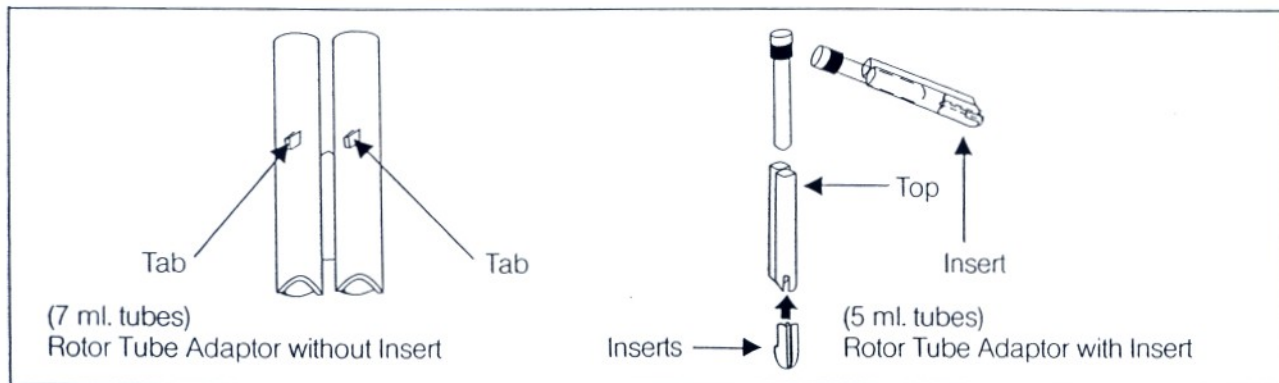

Figure 15. Rotor Adaptors with and without Inserts
- 5 ml. tubes must be loaded into adaptors which have been fitted with inserts before being positioned into the rotor (See Figure 15)